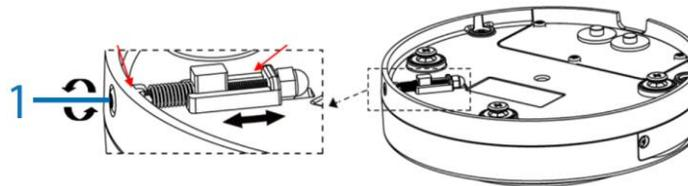

Figure 9
20. Use the torx wrench to rotate the security screw (1) (Figure 9) counterclockwise to securely attach the camera to the flat bracket.